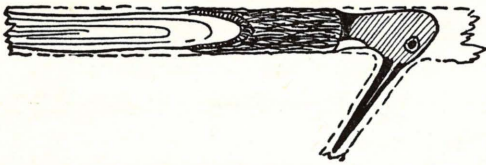

Fig. 43—Natural shapes in the branches may be used to make interesting designs
2. Decide on the design to be carved. Sometimes the bark is partly or entirely removed. Sometimes all of it is left on, giving a more rustic effect. (See Fig. 43.)